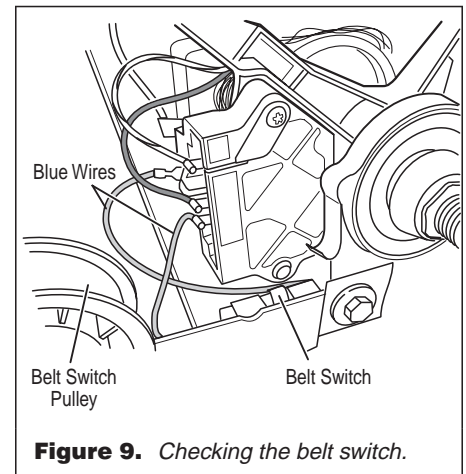

Figure 9. Checking the belt switch.
6. Check the belt switch by measuring resistance between the two blue wires, as shown in figure 9, while pushing up the belt switch pulley.